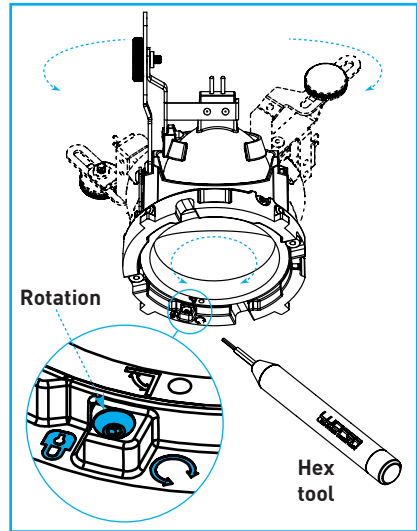

Fig.27
**Rotation:** To rotate, use supplied hex tool and loosen lock screw, then carefully set trim to desired position by hand. Tighten lock screw to secure (Fig.27). **DO NOT OVER TIGHTEN.**